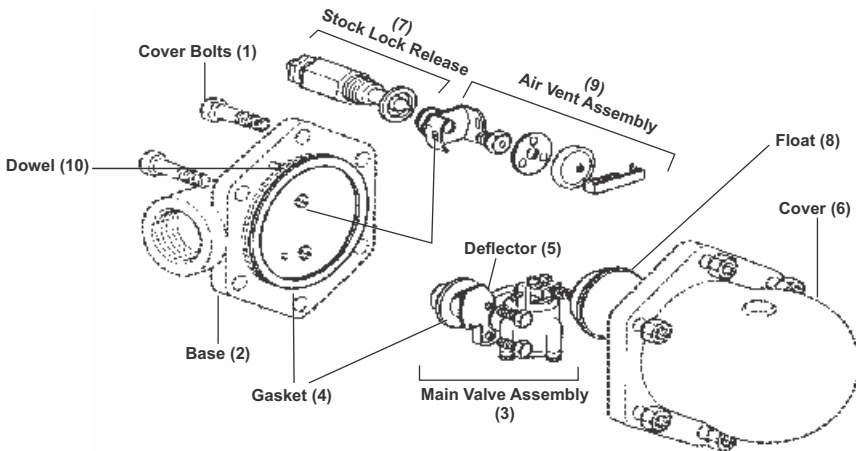

Figure8: Maintaining the main valve assembly
7.4 Maintaining/ replacing the main valve assembly : (Refer to Figure 8)
*The float trap in the figure 8. shows a TV+SLR assembly. SOFT31 (DN40/50) comes with only.
9. Available Spares: (Refer to Figure 8)